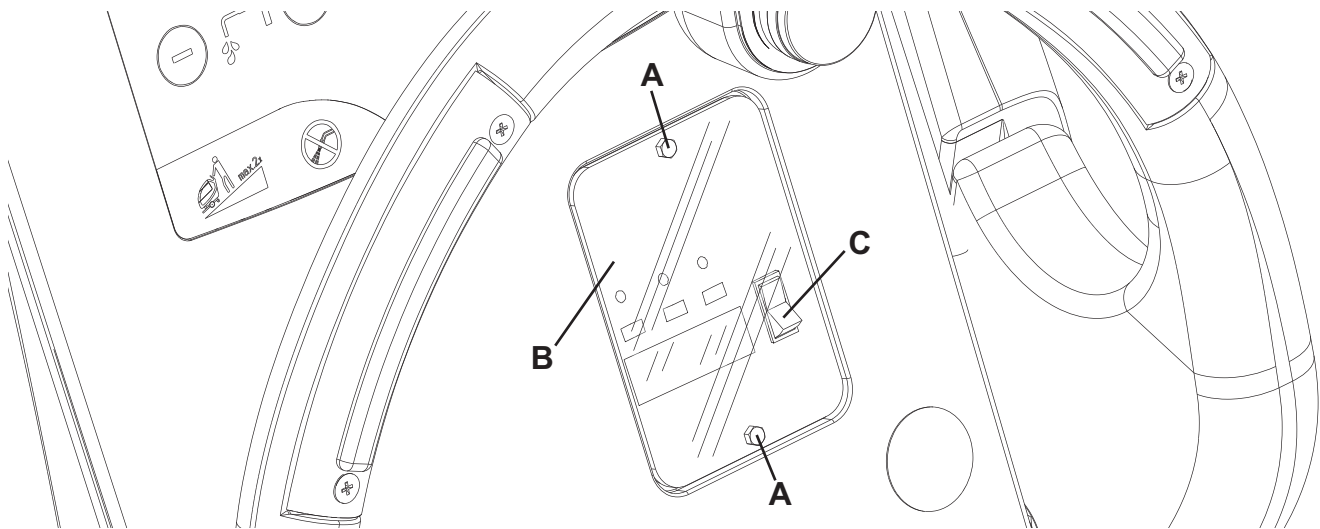

Figure 1
7. Remove the battery charger data inspection window screws (A, Fig. 1).
8. Remove the window (B).
9. Turn the battery charger selector (C) to WET position for lead batteries, or to GEL position for gel batteries.
10. Install the window (B) and tighten the screws (A).